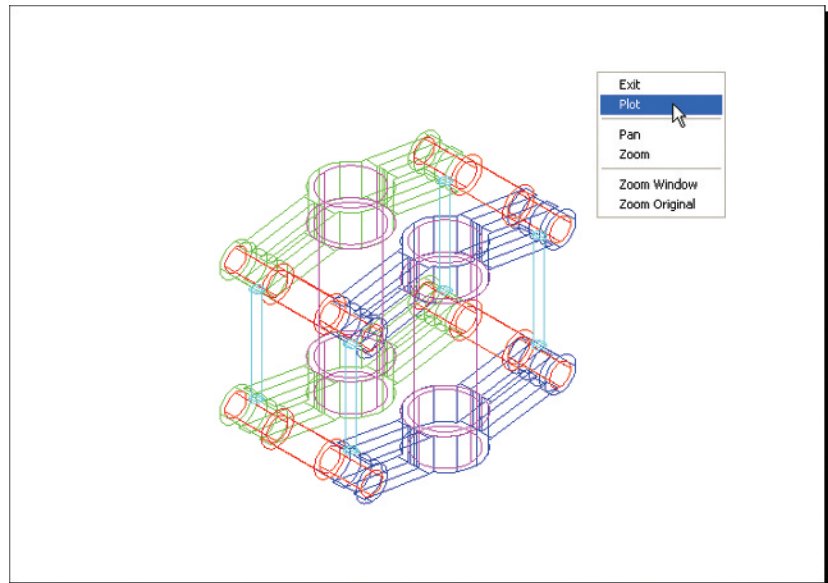

Fig. 19.10 Third example – Printing/Plotting
Third example – Printing/Plotting (Fig. 19.10)
4. If satisfied with the preview (Fig. 19.10) *right-click* and *click* on **Plot** in the menu which appears. The drawing plots.